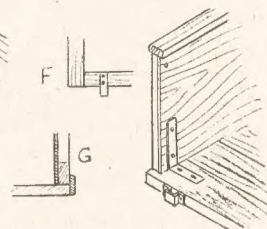

Fig. 4—Fittings for the back
To keep the rear frame in position, despite the inevitable shaking during travel, at the bottom some 6 ins. in from each side, screw pieces of  $\frac{1}{2}$  in. by  $\frac{3}{4}$  in. iron bar, as shown at (F) in Fig. 4. These should extend beyond the bottom edges of the frame just the thickness of the flooring.
irons can drop, are bent up from similar iron bar, and screwed to the back edge of the floor, as seen in Fig. 4, in the correct position, naturally.
Finish this part of the job by screwing an iron bracket each side, just behind the rear frame, to keep the sides of the body firm and erect at their open ends. Fig. 4 shows all the foregoing details.